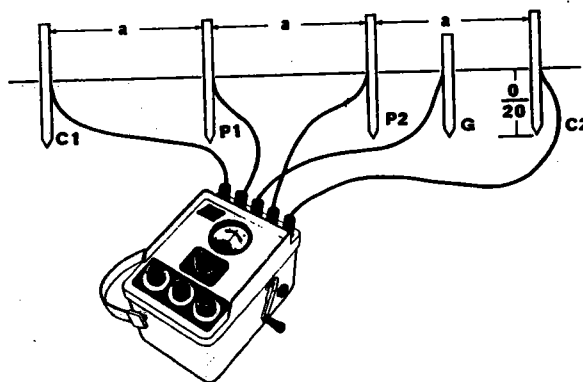

Figure 3-7. Connections for Measuring Earth Resistivity (Guard Terminal is used with Hand-Cranked Earth Tester Only).
d. **INSERTING TEST ELECTRODES.** General procedures for inserting test electrodes are as follows (refer to Figure 3-7):
2. The instrument is then connected to the four (or five) rods as in Figure 3-7.
7. For the hand-crank instrument, a fifth rod may be required at G, midway between C2 and P2 as in Figure 3-7, and is connected to the Guard Terminal.
If the spike resistance is over 3,000 ohms use the guard terminal, connecting it to a guard rod inserted between the potential grounding rod (P2) and the current grounding rod (C2) as indicated in Figure 3-7. The guard terminal is not required on the upper two ranges (x1.0) and (x10).